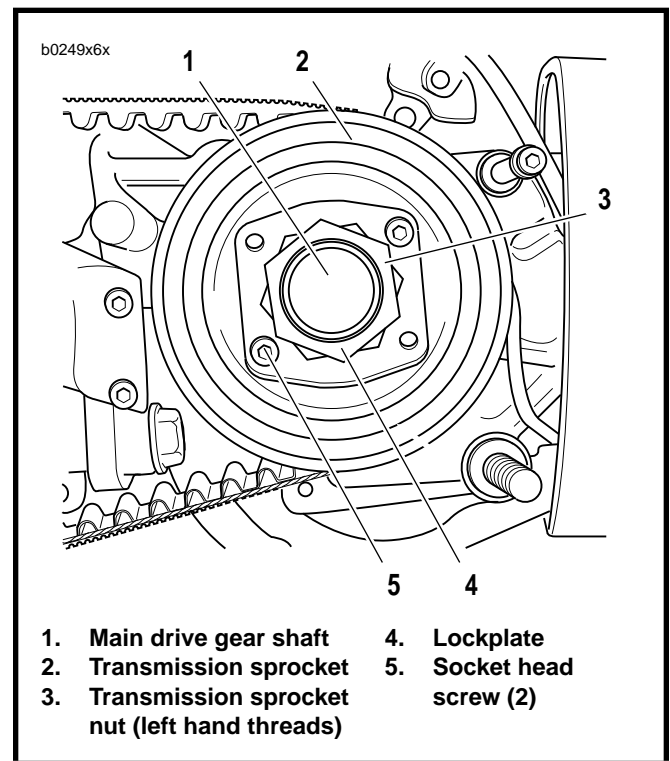

Figure 6-45. Transmission Sprocket
8. Coat lips of seal (15) with SPORT-TRANS FLUID. Position seal over spacer (16) with lips of seal toward case. Gently tap seal into bore of case until the outside of seal is flush with outer edge of bore. It is acceptable to recess seal to about 0.030 in. (0.76 mm) below outer edge of bore; seal recession will be limited by seal bottoming against retaining ring (18).
9. See Figure 6-45. Install transmission sprocket (2) with secondary drive belt onto main drive gear shaft (1).
10. Place transmission in neutral. Apply a few drops of LOCTITE THREADLOCKER 262 (red) to the **left-hand threads** of transmission sprocket nut (3). Position nut with washer-faced side facing transmission sprocket.
- d. See Figure 6-45. Install lockplate (4) over nut (3) so that two of lockplate's four drilled holes (diagonally opposite) align with sprocket's (2) two tapped holes.